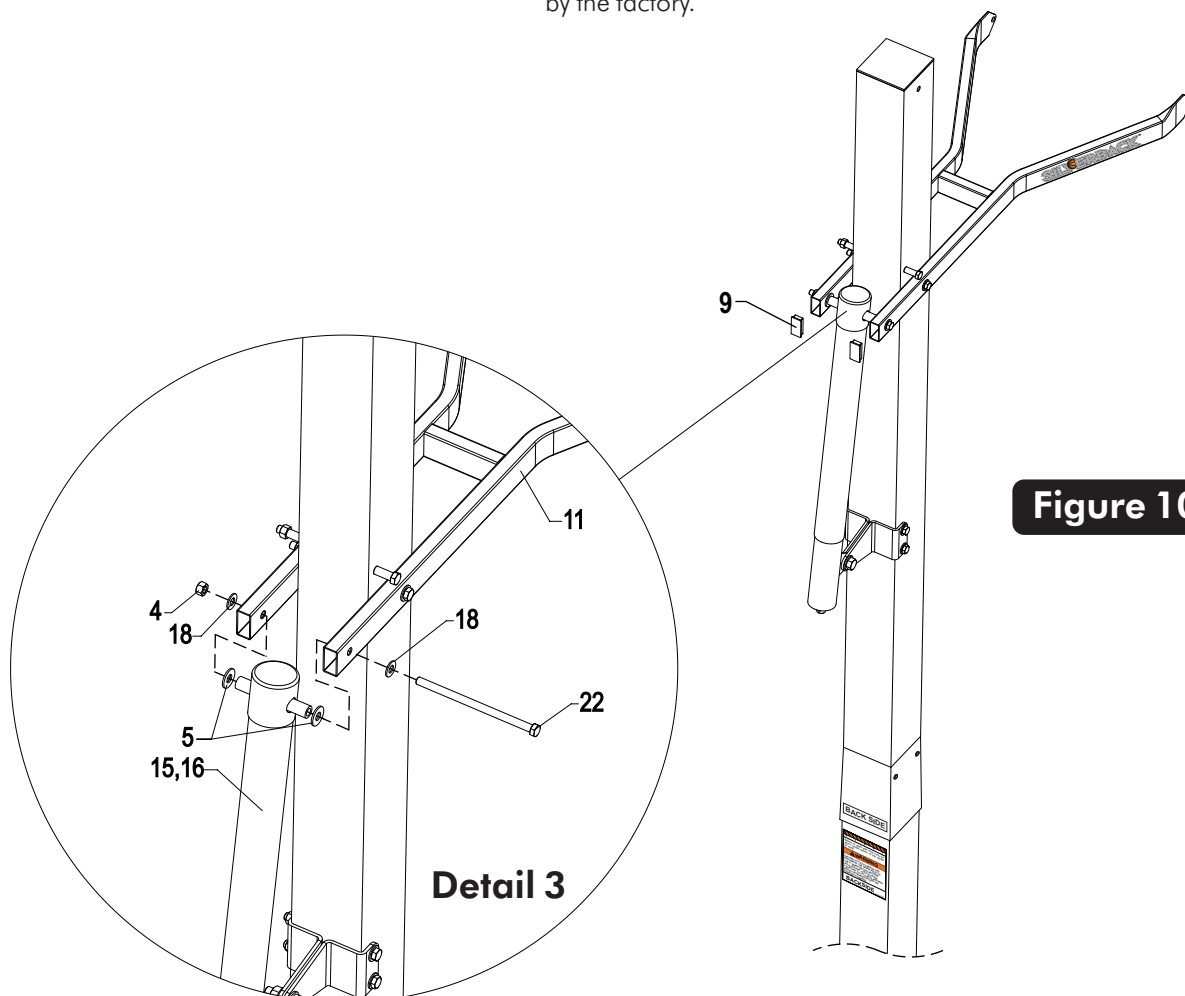

Figure 10
15. Secure Actuator (#16) to Lower Arms (#11) using one bolt (#22), two flat washers (#18), two plastic washers (#5) and one lock nut (#4). See **Figure 10** and **Detail 3**. Tighten both bolts (#22) snug but, **do not over tighten. Board Arms must pivot freely.**
16. Insert Two Tube Plugs (#9) into open ends of Lower Arms (#11). It may be necessary to use a rubber mallet to tap them in. See **Figure 10**. **Note:** Tube plugs may be pre-installed by the factory.